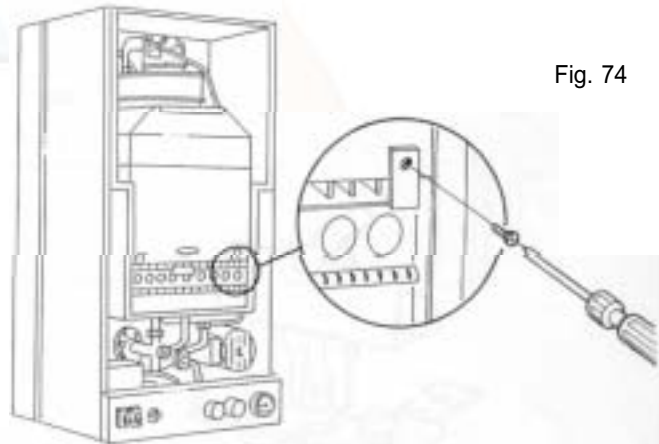

Fig. 74
- 7.15.5 Remove the two screws securing the main burner to the combustion chamber (Fig. 74).